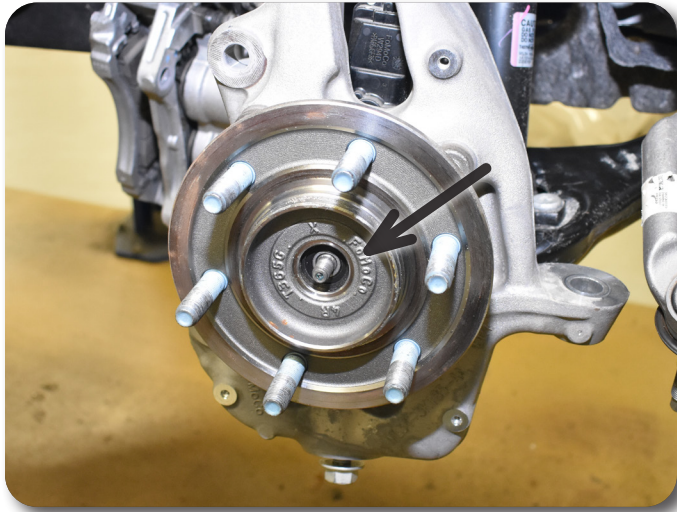

Figure 5
9. Remove the CV retaining nut (which was covered by the dust cap). Figure 5